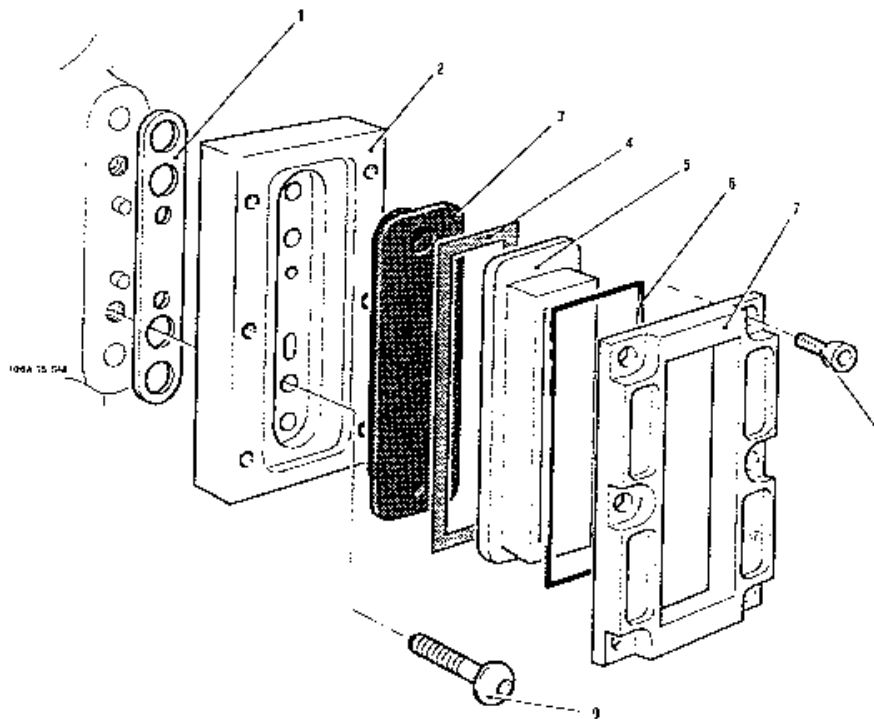

Fig. 10.6 Keyed Filler Window Assembly
10.8 Keyed Filler Window Assembly (Fig. 10.6)